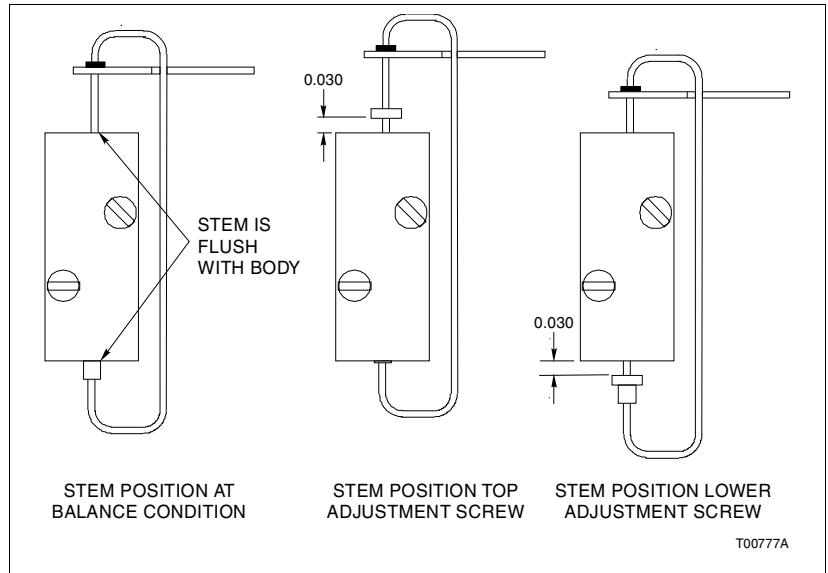
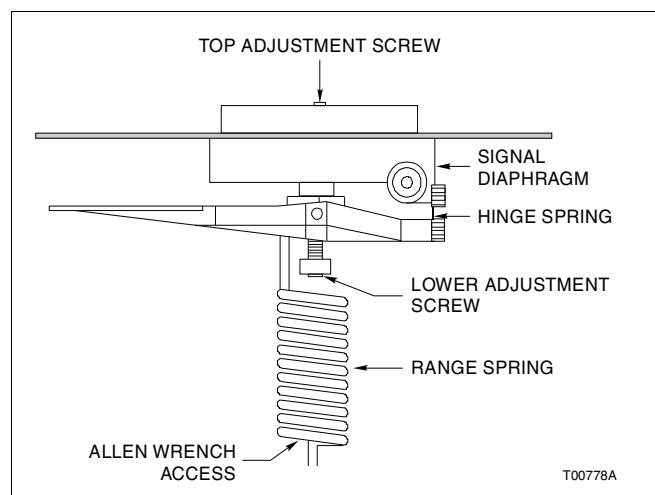

Figure 4-5. Pilot Valve Adjustment
Figure 4-6. Speed Adjustment Screws
The pilot valve stroke is measured by the movement (displacement) of the pilot valve stem, as shown in Figure 4-5. Figure 4-5 shows the maximum stroke length that is also the maximum speed of operation and is how the positioner comes from the factory. Use the following procedure to reduce the speed of operation:
1. Use a  $\frac{3}{32}$ -inch Allen wrench to turn the top adjustment screw clockwise  $\frac{1}{8}$ -turn to reduce stroke time (Fig. 4-6). ABB suggests  $\frac{1}{8}$ -turn increments. Take note of the number of turns. In total, do not exceed one full turn (clockwise) from the factory setting (Fig. 4-5). This adjustment controls the amount of air going to port 01.
2. Use a  $\frac{3}{32}$ -inch Allen wrench (the wrench must be at least 5-inches long) to turn the lower adjustment screw clockwise the same amount as the top adjustment screw to insure speed of operation is the same in both directions (if desired). Be careful when accessing the lower adjustment screw. Insert the Allen wrench up through the bottom of the range spring (Fig. 4-6). This adjustment controls the amount of air going to port 02.